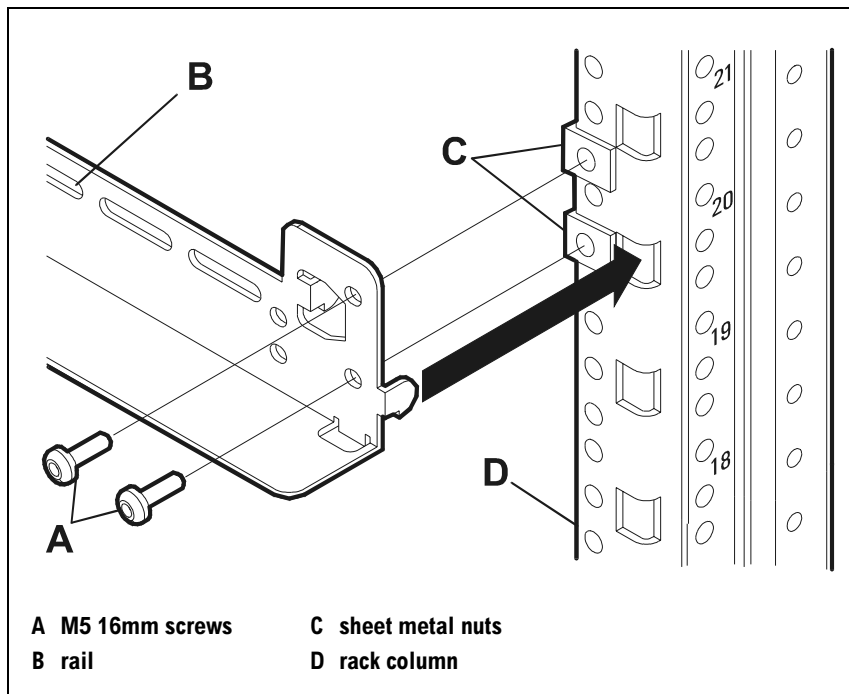

Figure 21 Rail Assembly – HP Rack Systems/E
3. Install sheet metal nuts (C in Figure 21) as follows on all four columns.
4. Insert two screws (A in Figure 21) through each rail end and prepared rack column. Use a Torx T25 screwdriver to tighten the screws securely.